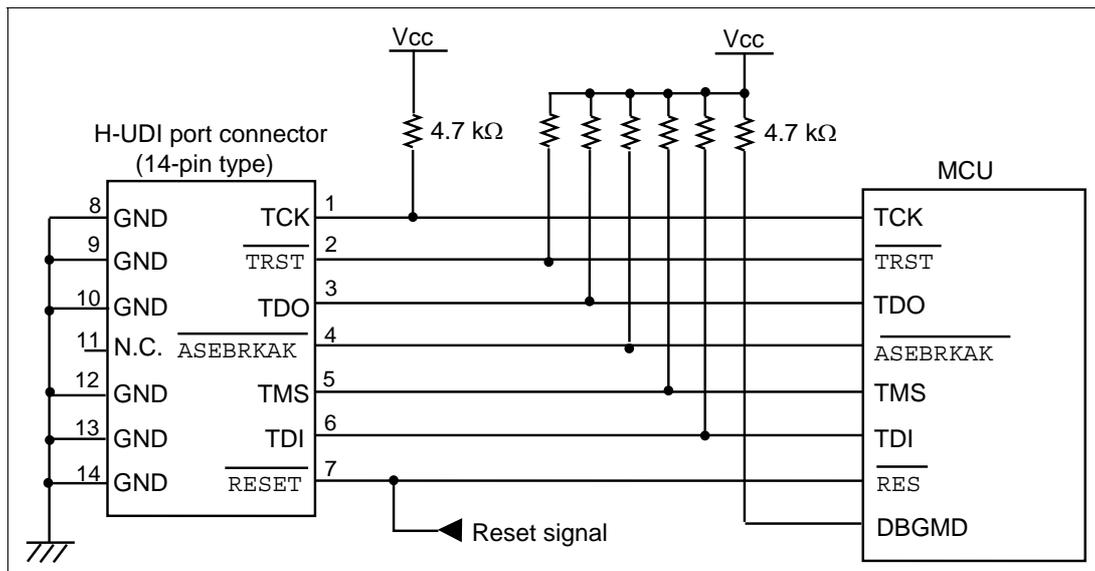

**Figure 4.1 Recommended Circuit for Connection between the H-UDI Port Connector and the MCU (36-Pin Type)**
Figure 4.1 shows a recommended circuit between the H-UDI port connector (36 pins) and the MCU.
5. When the emulator is used, connect the CK pin between the H-UDI port connector and the MCU via a buffer (74LVC125 is recommended) as shown in figure 4.1.
- (1) When the emulator is used: DBGMD = high
- (2) When the emulator is not used: DBGMD = low
7. The resistance values shown in figure 4.1 are recommended.